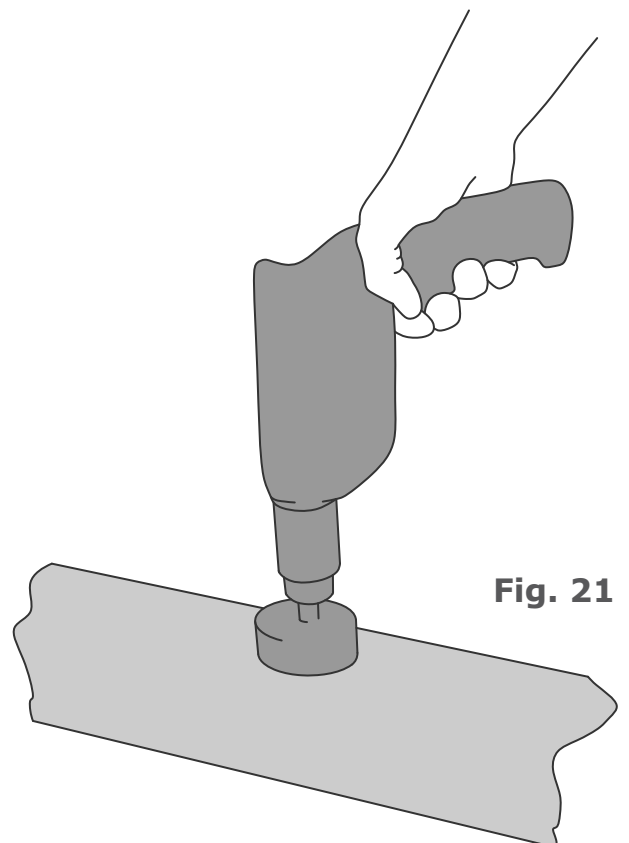

Fig. 21
13. Use an 80mm hole saw to drill a hole in the base of the gutter as marked. Fig 21.